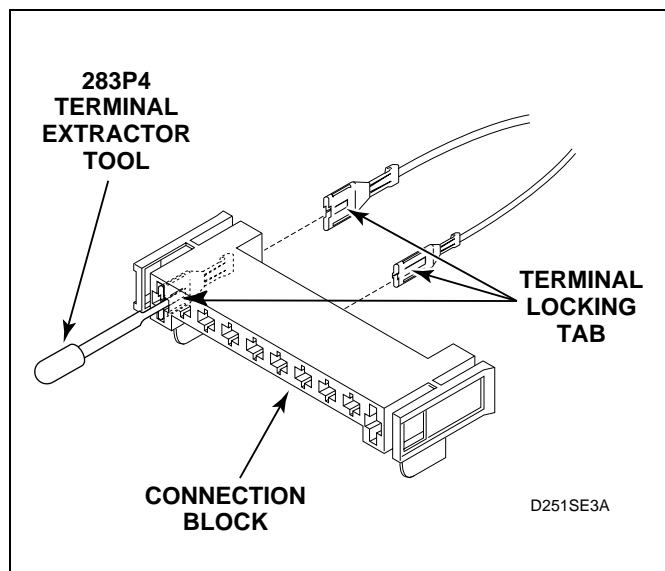

Figure 45
- (1) Insert the tool into the block on the back of the terminal being removed. See *Figure 45*.
- (2) Apply tool pressure to compress the terminal locking tab on terminal and force the terminal and wire out back side of connection block. See *Figure 45*.